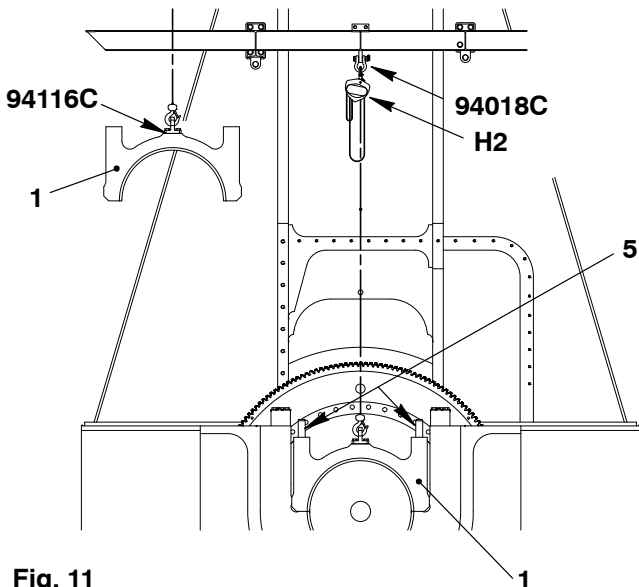

Fig. 11
4) Apply tension to the elastic studs (5, Fig. 11), refer to 1132 1
6) Attach the lug (94116C) to the main bearing cover (1).
8) Attach the chain block (H2) to the shackle (94018C) and the bearing cover (1).
9) Operate the chain block (H2) to lift the bearing cover (1).
10) Attach the engine room crane to the bearing cover (1).
12) Operate the engine room crane to move the bearing cover (1) to an applicable area.